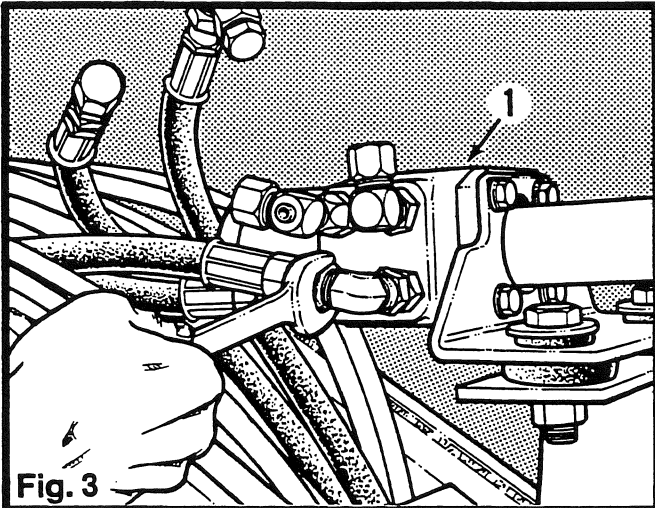

Fig. 3
2. Disconnect the hoses from the steering unit (1). (Fig. 3) Plug the hose fittings and the ports of the steering unit to prevent contamination of the system.